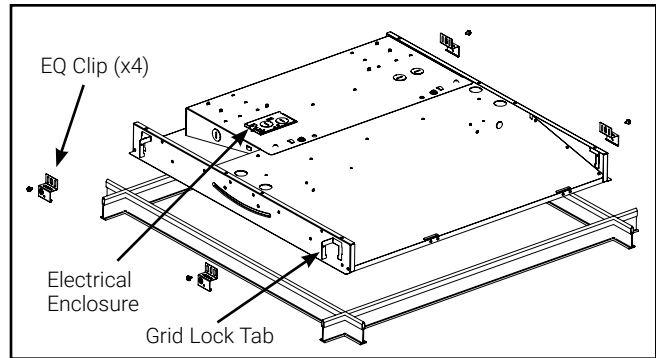

Figure 2. Install in Ceiling T-Grid System
- Install the luminaire into the ceiling T-grid system. Ensure that the luminaire sits snugly in T-grid system (Figure 2).